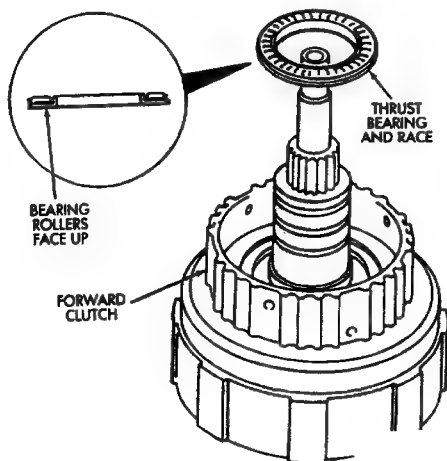

Fig. 13 Installing Thrust Bearing And Race
(1) Lubricate bearing and race assembly with petroleum jelly and install it in clutch drum (Fig. 13). Race side of assembly faces downward and toward drum. Bearing rollers face up (Fig. 13)